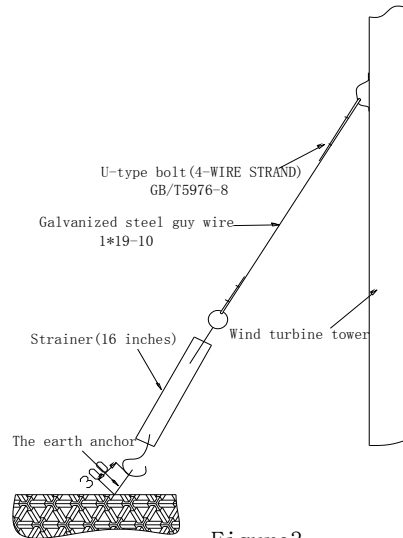

Figure3
2. The installation sequence of the wind turbines can follow the steps as illustrated in figure3.
Figure 3 wind turbine breakdown